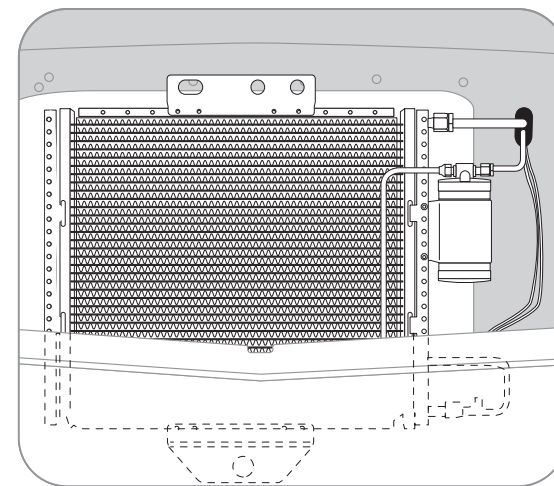

FIGURE 34
**STEP SIX:** Place the condenser/drier unit into place, locating it so that the holes in the condenser brackets align with the holes in the core support used to attach the hood latch (it will rest on the lower radiator core brace, see figure 34).